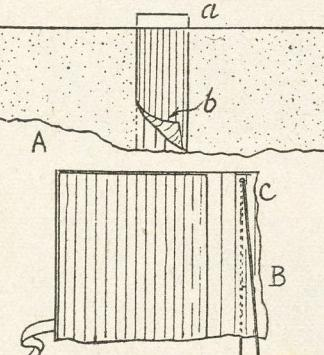

Fig. 2—Details of spine and threading
This should, for choice, match the outside covering, but is not imperative at all. Cut each piece to within a $\frac{1}{16}$ in. of the front, and top and bottom edges, and wide enough to overlap the covering over the middle joint by $\frac{1}{4}$ in. Diagram Fig. 2 (B) shows this. Paste the inside covers and lay carefully in position.